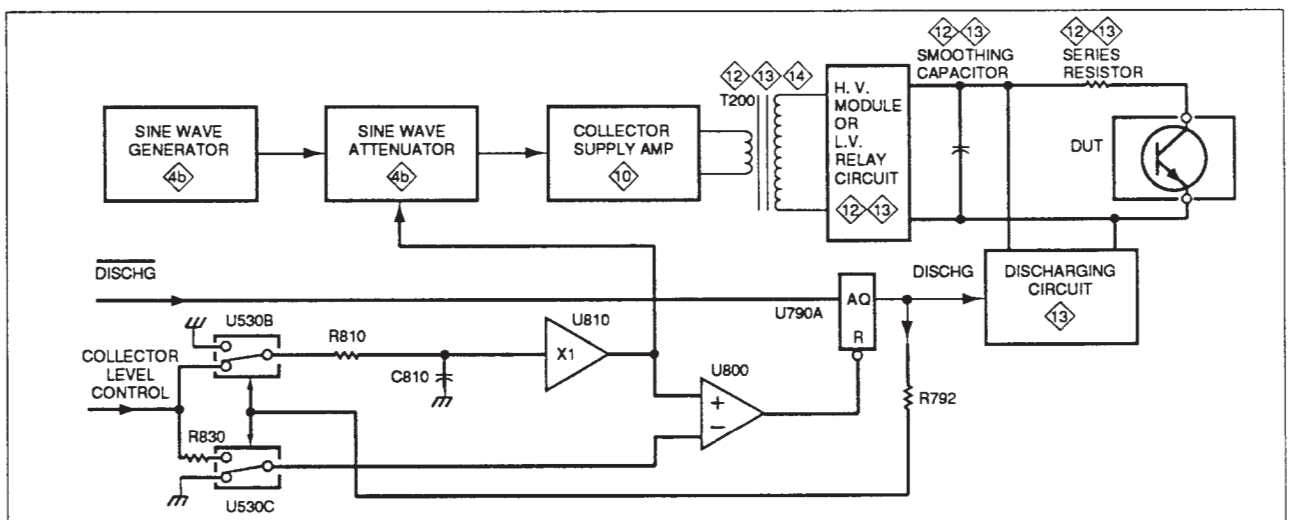

Figure 2-2. Discharge Control Circuit.
If the VARIABLE COLLECTOR SUPPLY control is not turned on, the DISCHG(L) signal will remain high, with pin 13 of U790A low. Pin 13 of U790A is connected to the Discharging Circuit (located on diagram 13) as the discharge control signal DISCHG, and is also connected to the control inputs of U530B and U530C. Thus, in this case, the Discharging Circuit is disabled, and the DC signal from the Collector Level Control Circuit passes through U530B, R810 and U810, and is connected to the Sinewave Attenuator Circuit. See Figure 2-2.